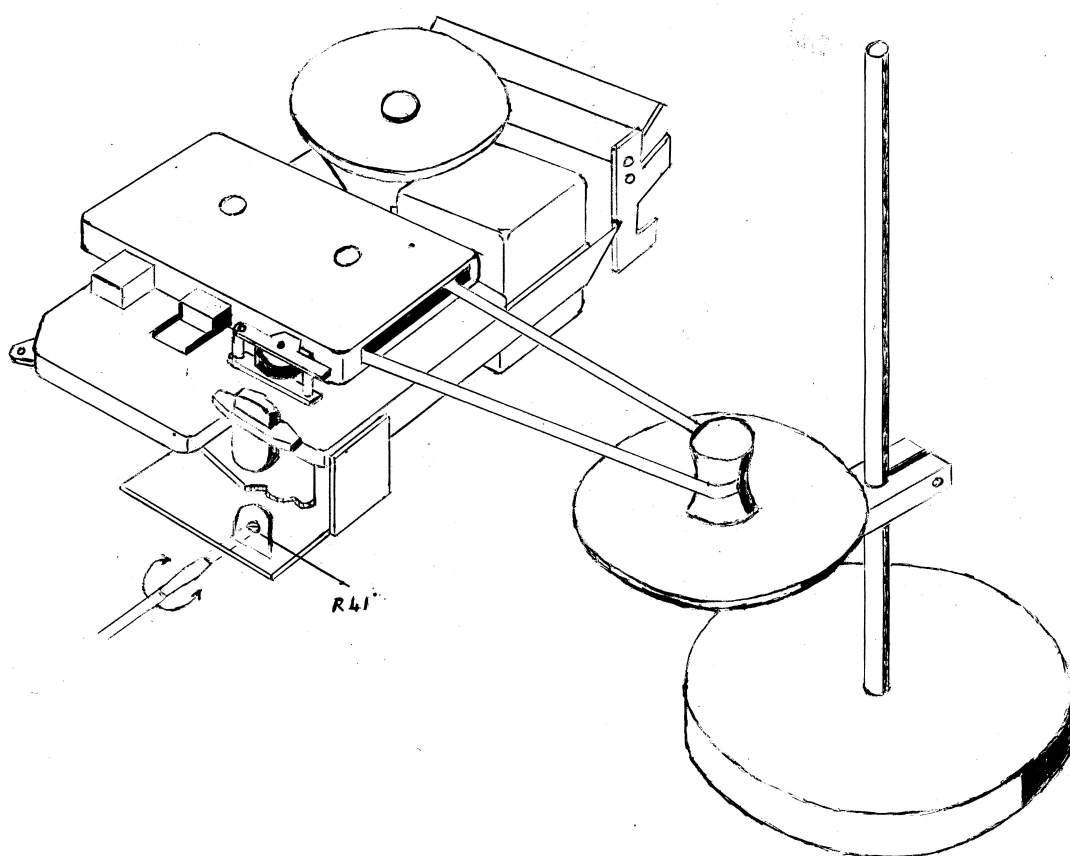

Fig. 3
- l. Adjustment of the motor speed, see fig. 3.
This speed can be adjusted with R41, fig. 3.
Position a stroboscope disc (code number A9 407 30/50 for 50 c/s and A9 407 30/60 for 60 c/s) next to the apparatus and lead the tape past this disc, see Fig. 3.